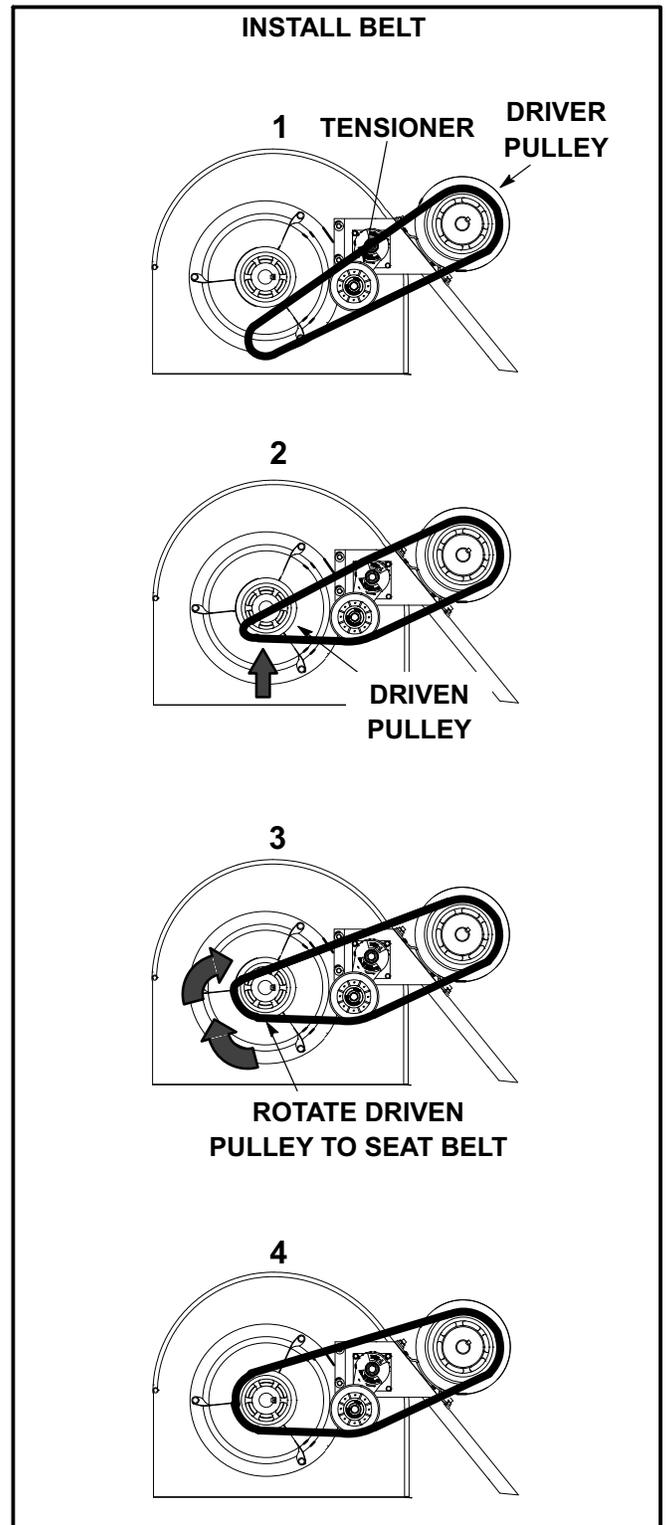

FIGURE 13
- 6- Replace blower belt. See figure 13.